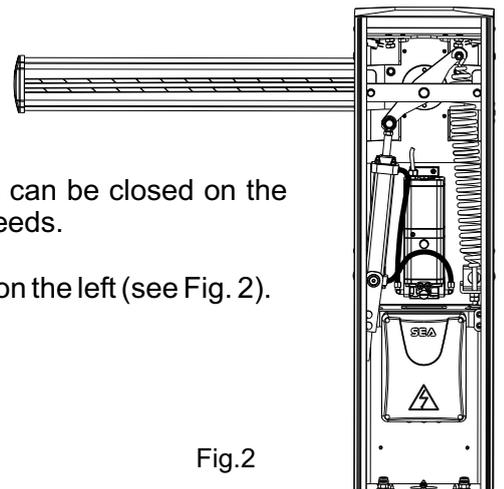

Fig.2
e.g. if the spring is on the right-hand side, the guard closes on the left (see Fig. 2).
Barrier with opening on the right (Fig. 2)